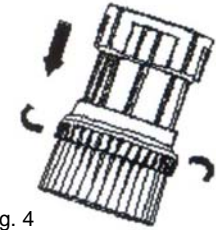

Fig. 4
3. To use the flexible hose with the dusting brush, hold the hose in one hand and with the other, pull out the dusting brush and turn clockwise to lock in place. (Fig. 4)